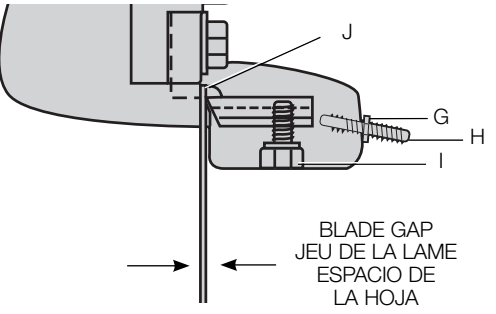

FIG. 4
Hold the shear positioned so the main body is parallel to the work (K) and the cutters are at right angle to the work (Fig. 4). Engage the cutters with the edge of the material to be cut, and apply only sufficient forward pressure to start cutting. The relative position of the cutters to the work is critical, and it may be necessary to tilt the tool forward or backward until the best cutting rate is achieved. Too much tilt will stop the cut. Blades must be sharpened in accordance with the angles in Figure 5, using the template (L) provided.